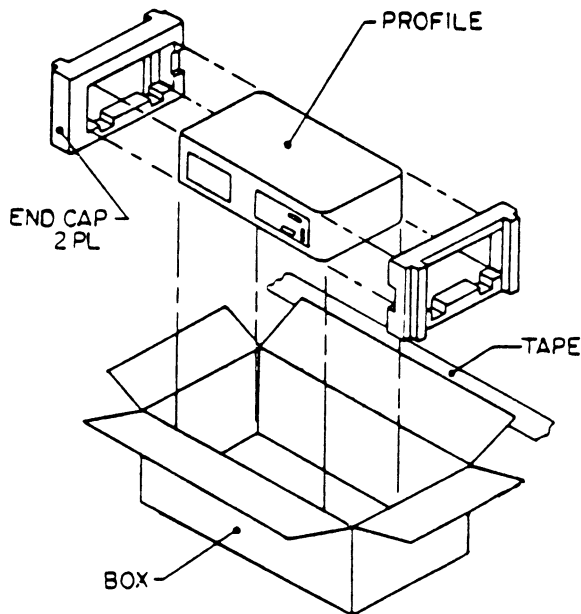

FIGURE 3
4. (For this step only, refer to Figure 3.) Place the end caps snugly onto the ends of the ProFile and place the ProFile into its own small box.